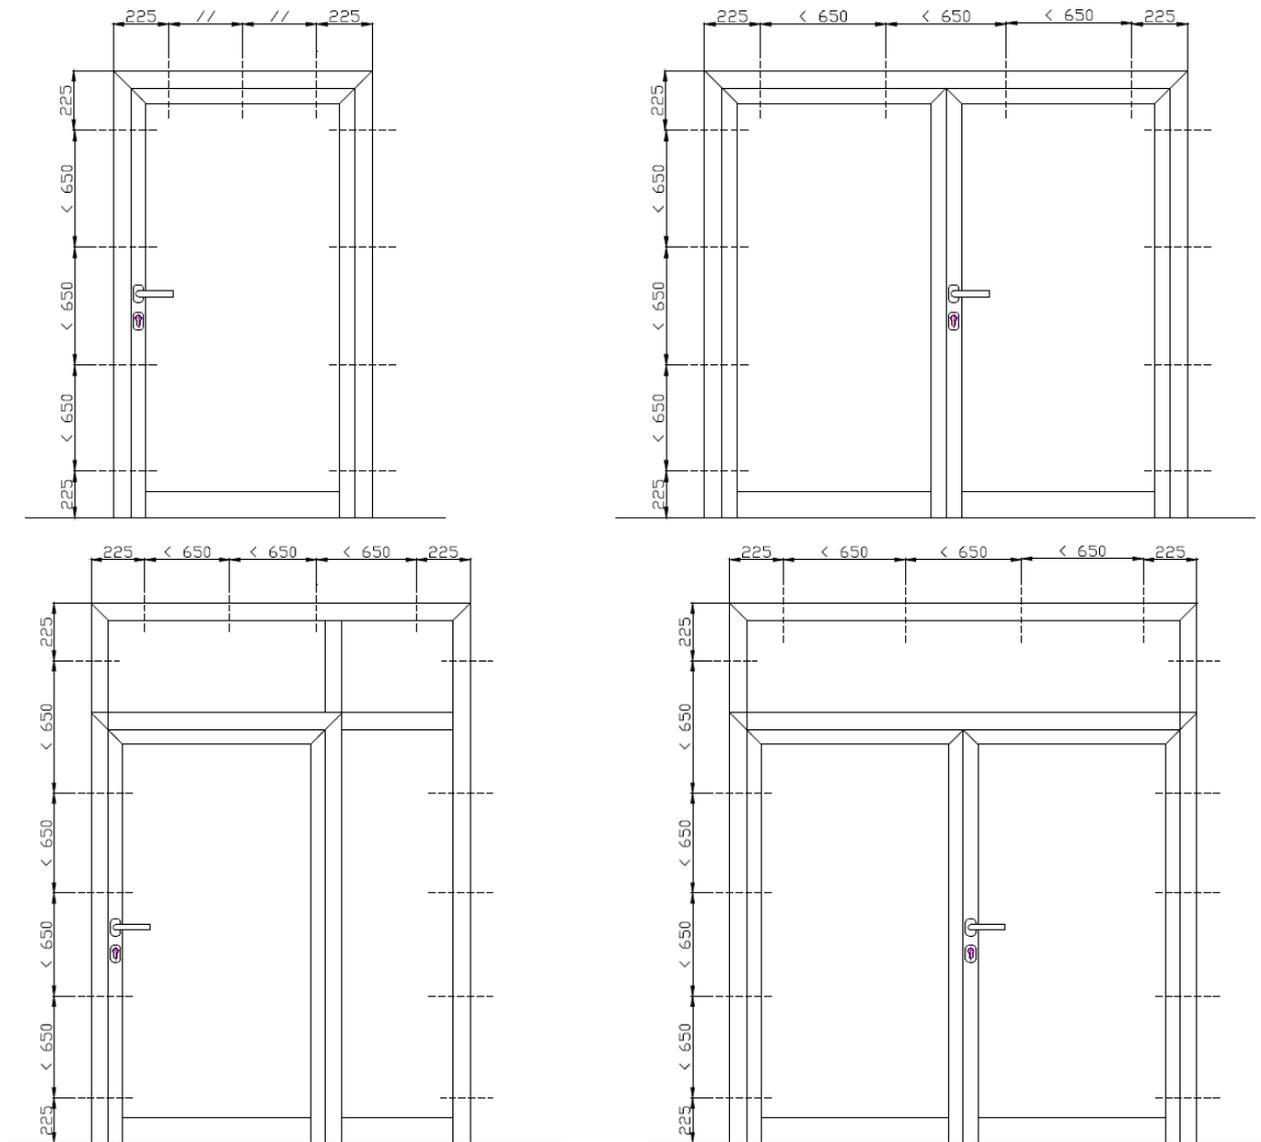

Fig. 7 – Mounting the glass
- Fig. 7 – Position of the bottom leaf profile relative to the floor (Detail 3)